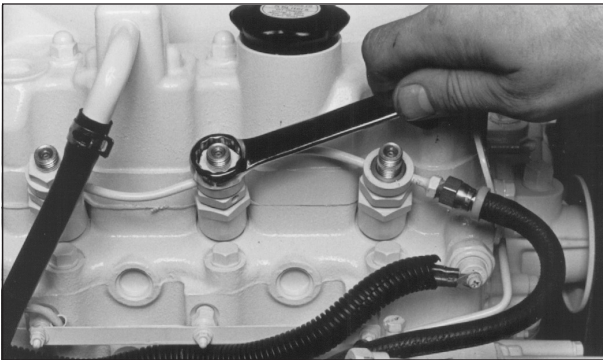
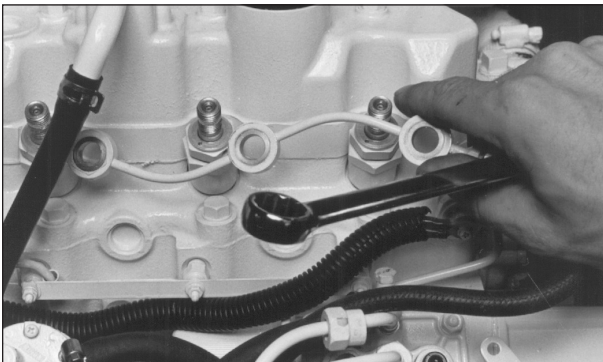

Figure 10: Remove return line nuts.
Figure 11: Remove return line.
- d. Remove the return line retaining bolts (Figure 10). Remove the return line (Figure 11).